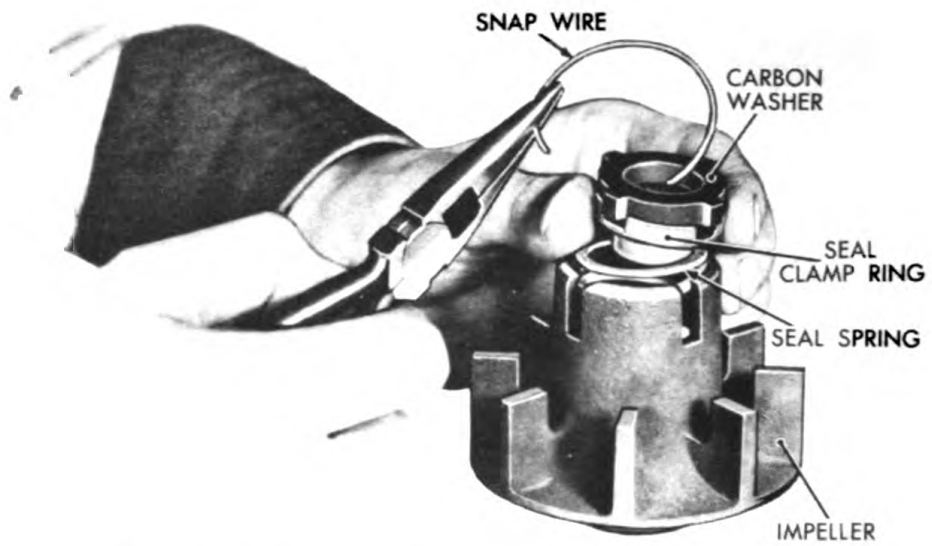

Figure 224. Removing Spring Clip from Impeller.
- d. Remove the spring clip from the impeller as shown in figure 224 and remove the water pump seal assembly.